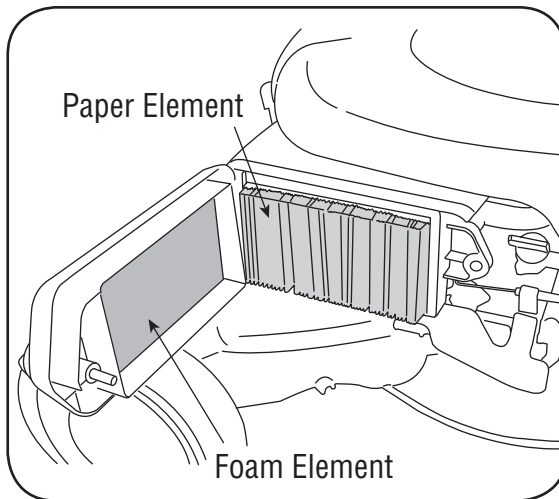

Figure 10-2: Servicing the air cleaner.
1. Remove the wing bolt and the air cleaner cover. Remove the elements and separate them, Figure 10-2. Carefully check both elements for holes or tears and replace if damaged.